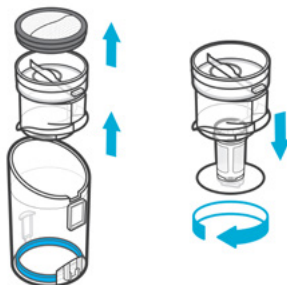

Figure 3.3
5. Remove the disk filter and pull the inner chamber out from the dust bin. Twist the tab on the bottom clockwise to remove the cup filter [Figure 3.3]. Empty out any remaining dirt.